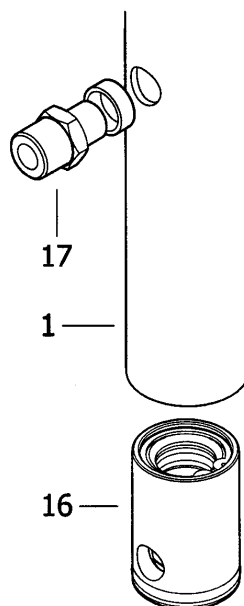

Fig. 9
6. Unscrew and remove the fluid outlet adaptor (17) and remove carefully the fluid packing set (16) from inside the tube (1) (fig. 9), pushing it with a rod made out of a soft material (i.e. wood).